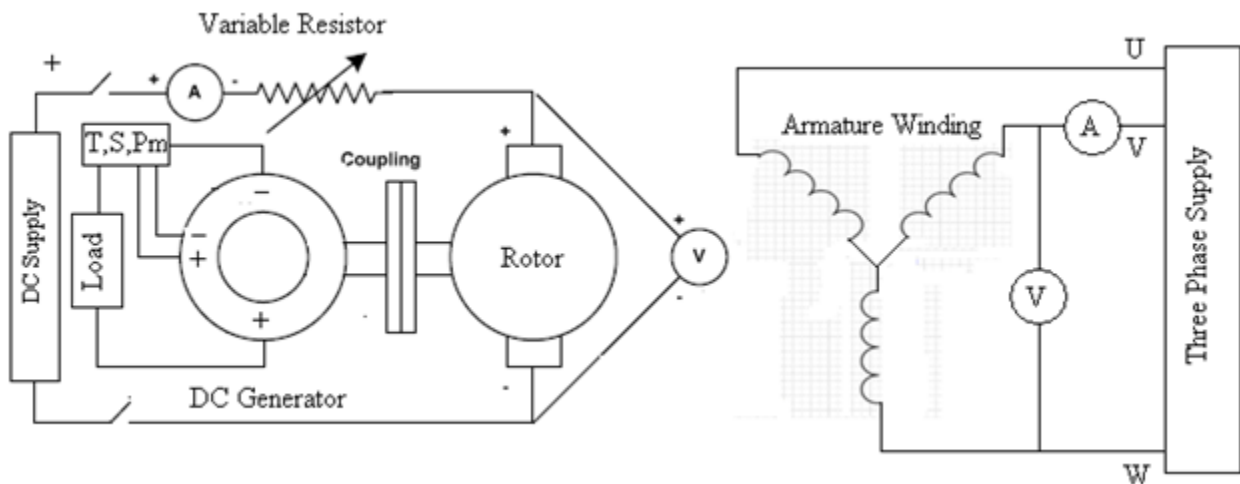

Figure 12.2. Torque speed curve
1. Couple synchronous motor with PMDC generator mechanically as shown in Figure 12.2.